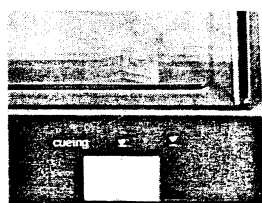

Fig. 4
6. Move the tonearm over the record and set the cueing knob to the "▼" position. (See Fig. 4)